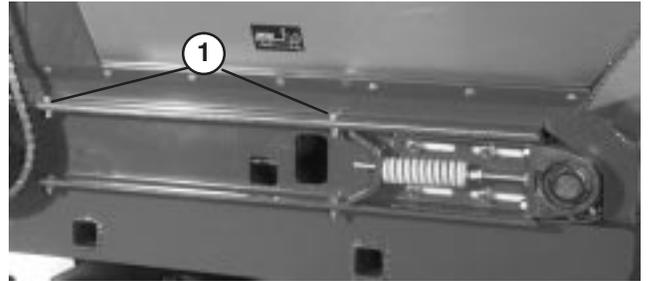

Figure 25
4. Remove (2) capscrews, washers and nut, on each side of machine, securing hopper to slider bed (Fig. 25).